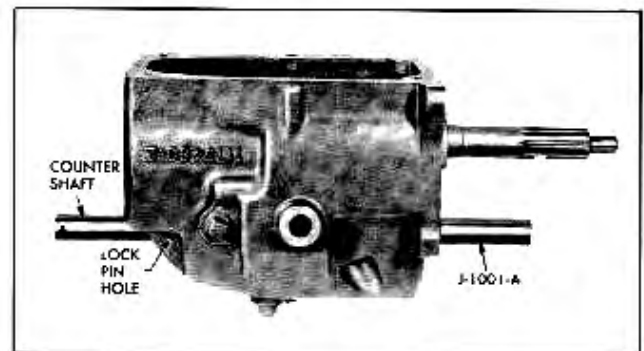

Fig. 7-17 Driving Counter Gear Shaft Out of Transmission
14. Using punch drive counter gear shaft lock pin into the shaft, then drive shaft out through rear of transmission case using Bearing Loader Tool J-1001-A and a soft hammer (Fig. 7-17). Make sure Tool follows the shaft closely so that counter gear bearings and thrust washers will be held in place. Allow counter gear assembly to rest on bottom of case. Drive lock pin out of shaft.